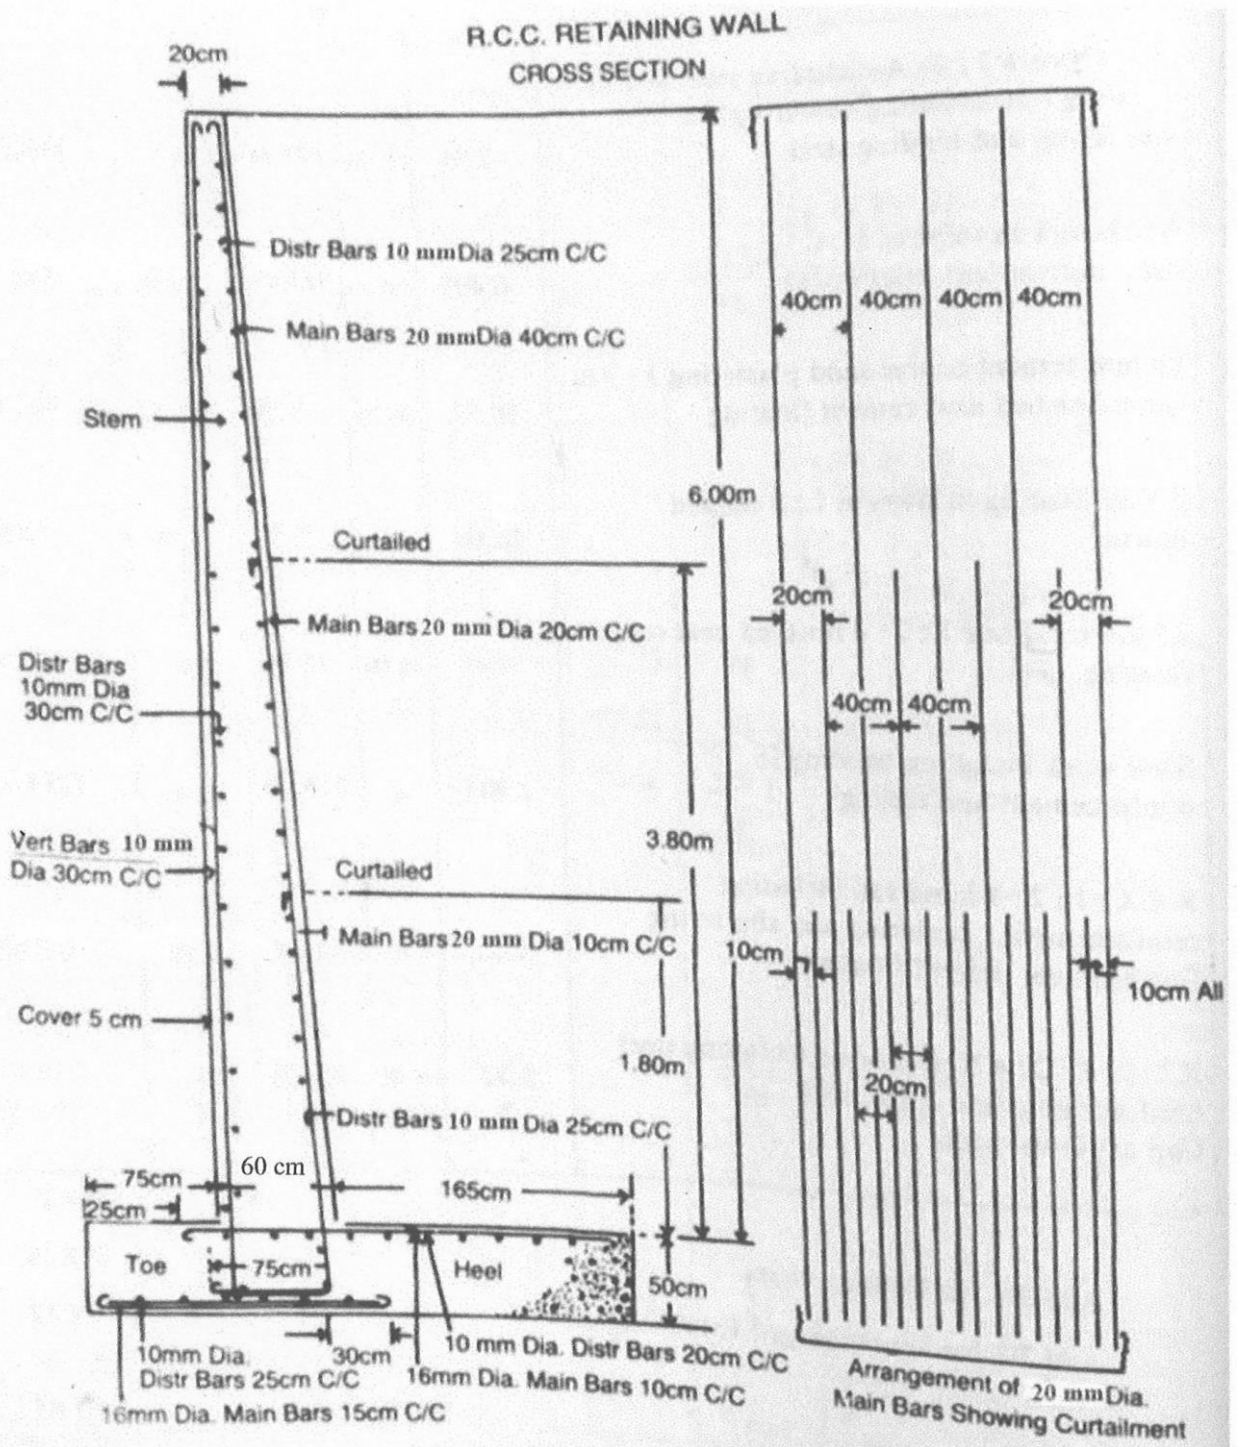

Figure 2
3. Prepare quantity estimate for RCC work 1:2:4 excluding steel and its bending for the cantilever retaining wall of length 30 m given in Figure 2.
VI. Compute the following item for the retaining wall 30 m length given in Figure 2.